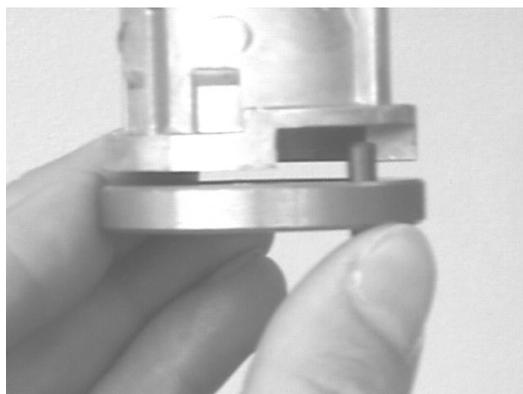

Fig. 15
7. Check that during insertion, the pin of the rotation prevention device is correctly inserted into the seat located on the pantograph head (*Fig. 15*)